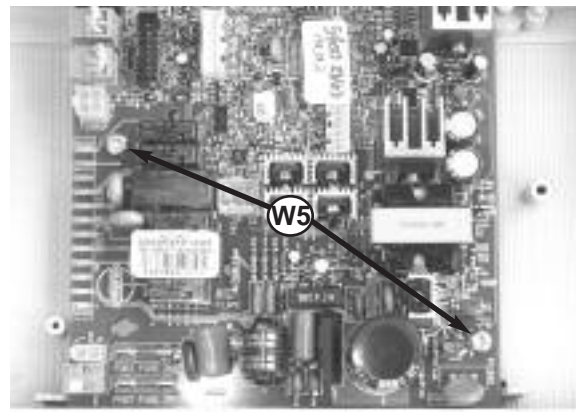

Fig. 111
- To remove the main PCB disconnect all electrical connections and remove the two screws **W5** (see *Fig. 111*);